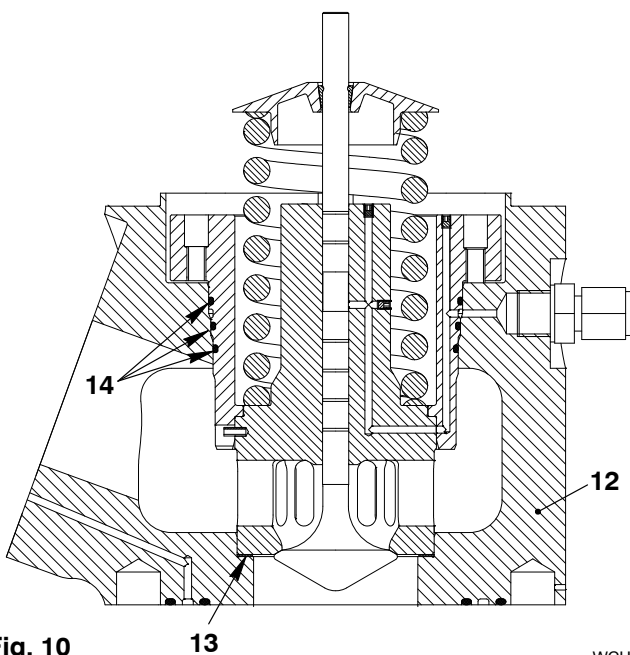

Fig. 10
- 1) Insert the valve assembly (valve guide (7, Fig. 10), valve spindle (8), spring (5) and spring carrier (3)) into the bush (94214E).
- 2) Attach the spring press (94214C) and the valve assembly to the bush (94214E) with the six M10x45 screws (4).
- 3) Tighten the screws (4).
- 4) Attach the bracket (94214D) on the other side of the bush (94214E) with the two M6x75 screws (10).
- 5) Turn the special screw (4) fully in.
- 6) Turn the T-handle (1) clockwise to compress the spring (5).
- 7) Put the valve cotter (2) on the spring carrier (3) in the groove of the valve spindle (8).
- 8) Slowly turn the T-handle (1) counterclockwise. Make sure the valve cotter (2) stays in the correct position.
- 10) Clean all surfaces and bores of the housing (12).
- 11) Replace the O-rings (14) with new ones.